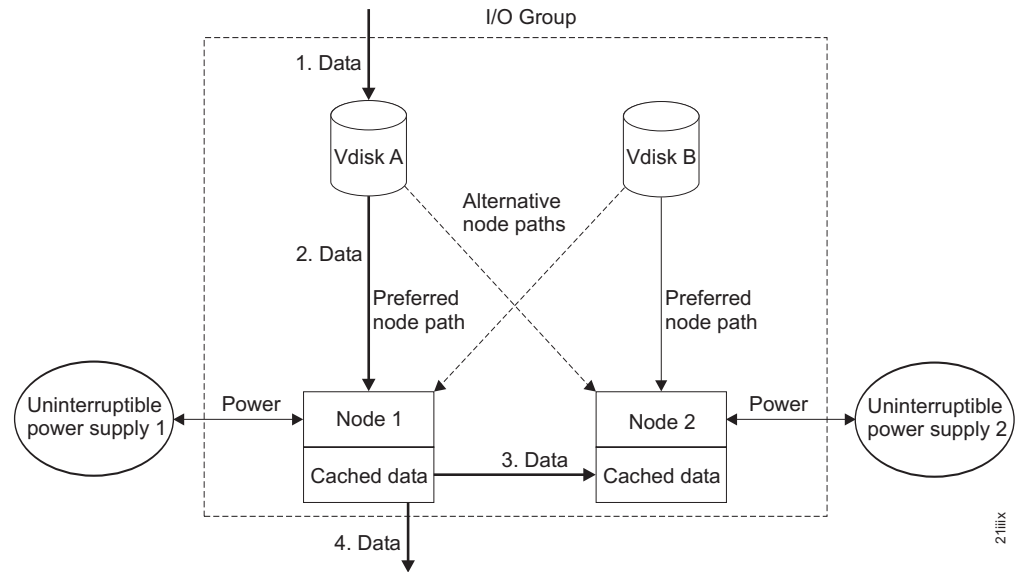

Figure 5. I/O group and uninterruptible power supply
Figure 5 on page 15 shows a write operation from a host (1), that is targeted for VDisk A. This write is targeted at the preferred node, Node 1 (2). The write is
cached and a copy of the data is made in the partner node, Node 2's cache (3). The host views the write as complete. At some later time, the data is written, or de-staged, to storage (4). Figure 5 also shows two uninterruptible power supply units correctly configured so that each node is in a different power domain.